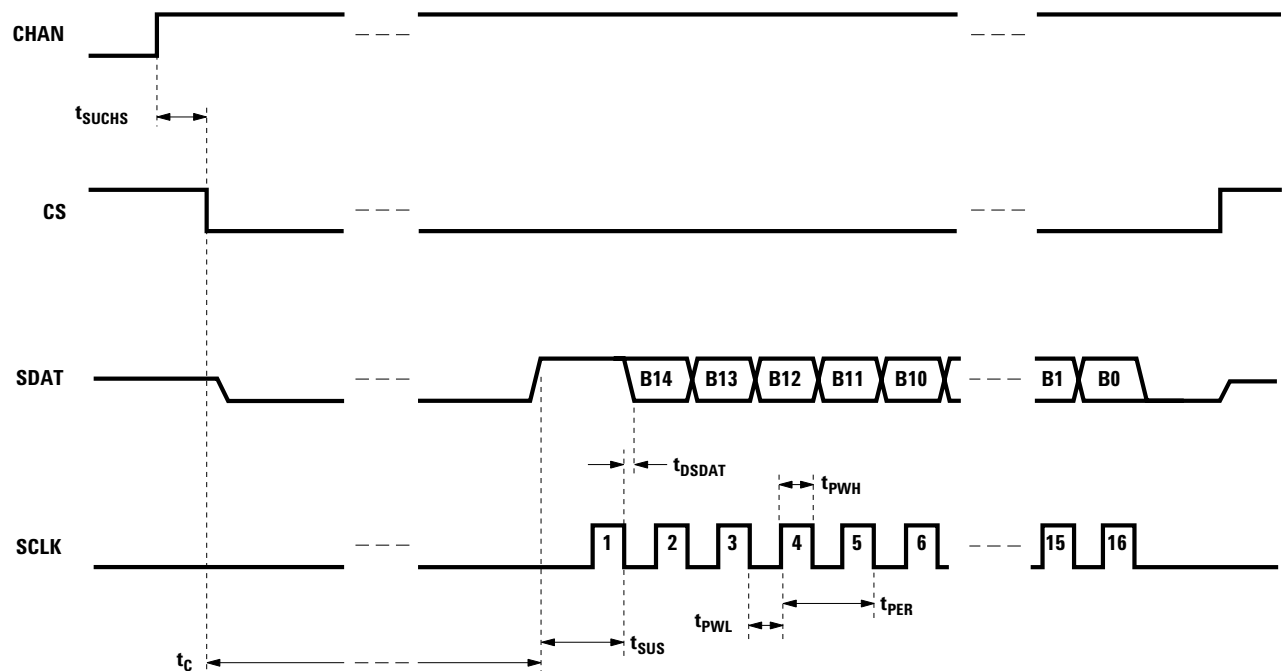

Figure 2. Conversion Timing.
Figure 2 illustrates the timing for one complete conversion cycle. A conversion cycle is initiated on the falling edge of the convert start signal (CS); CS should be held low during the entire conversion cycle. When CS is brought low, the serial output data line (SDAT) changes from a high-impedance to the low state, indicating that the converter is busy. A rising edge on SDAT indicates that data is ready to be clocked out. The output data is clocked out on the negative edges of the serial clock pulses (SCLK), MSB first. A total of 16 pulses is needed to clock out all of the data. After the last clock pulse, CS should be brought high again, causing SDAT to return to a high-impedance state,